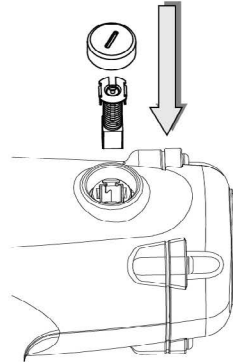

Fig. 7
3. Put the new carbon brush and carbon brush panel back into the housing in proper order (Fig. 7).